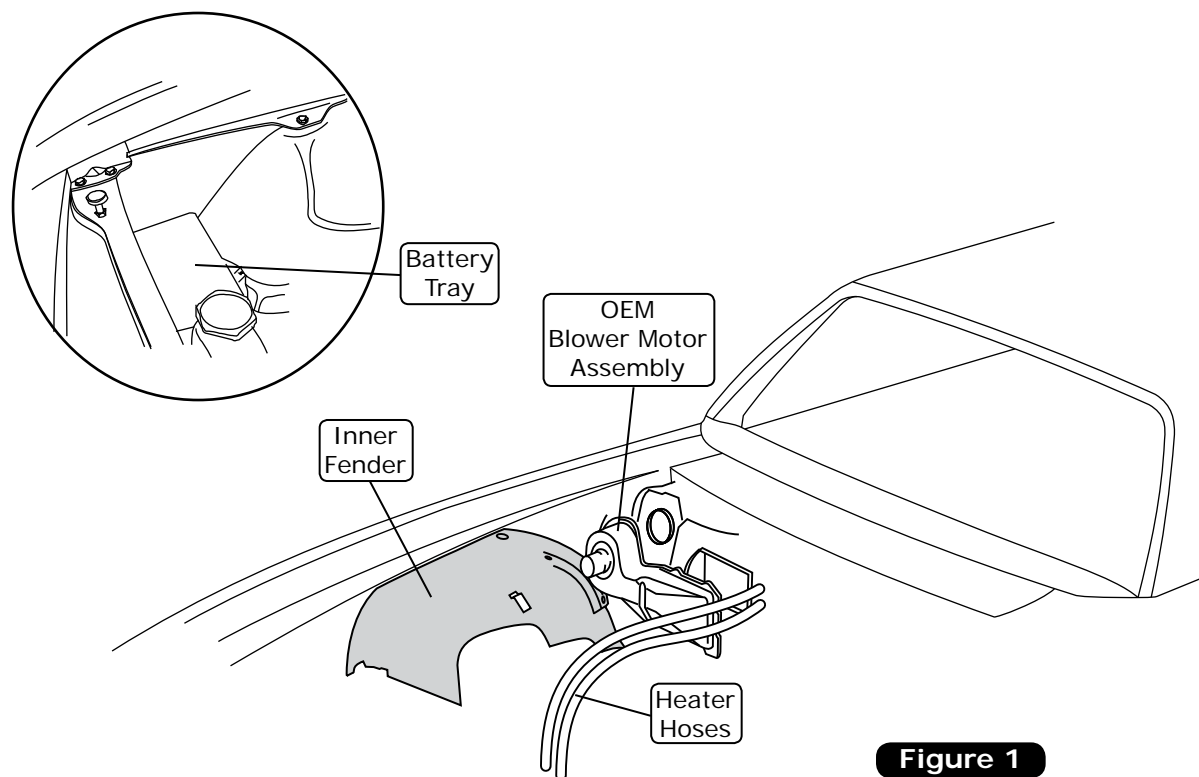

Figure 1
6. Remove the OEM heater hoses (discard) (See Figure 1, below).